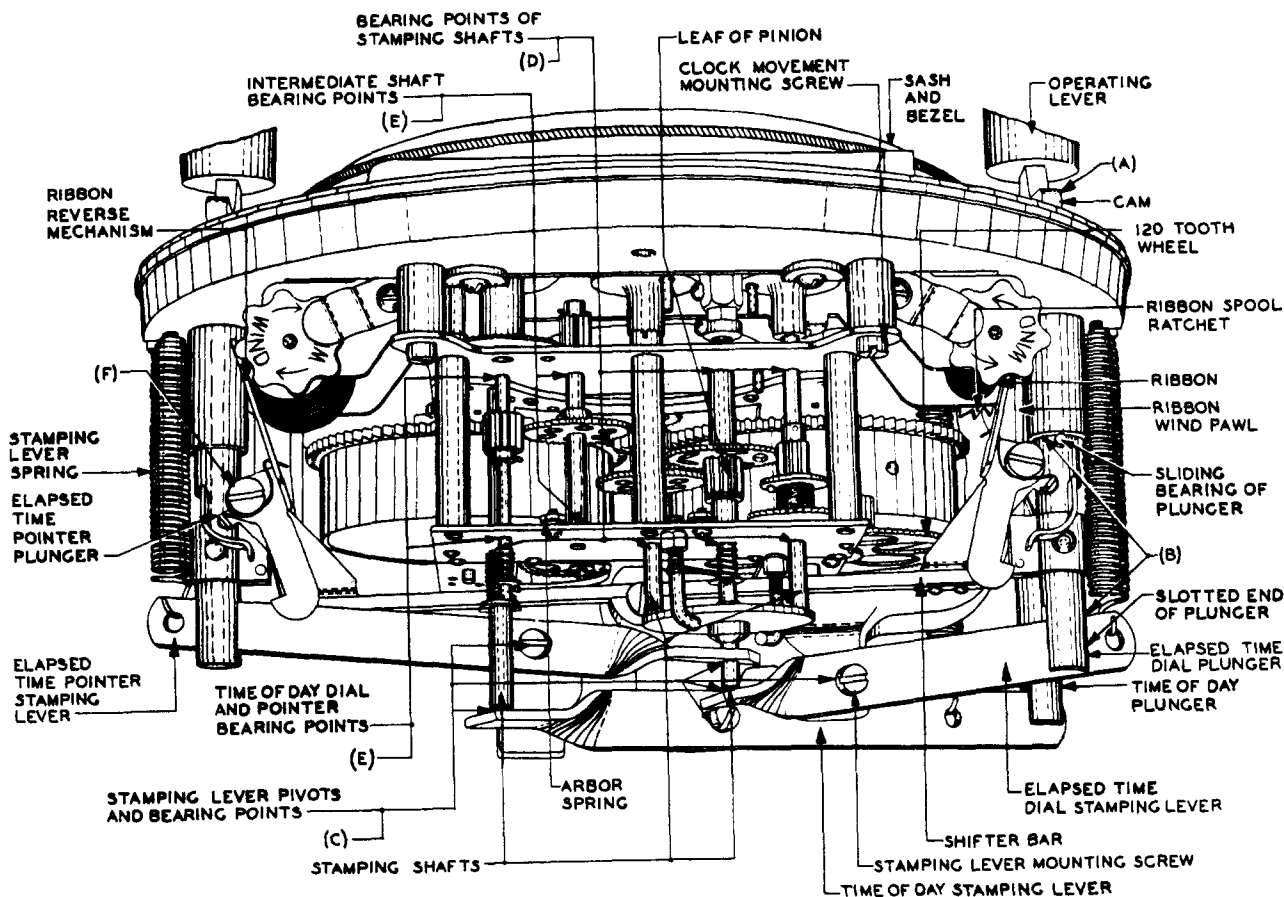

Fig. 2 — Unwound Spool Ribbon Reverse Mechanism — Model 6 Calculagraph
Cams — pivots and bearing points on plungers — Fig. 2(A)
Plungers — sliding bearings and slotted ends — Fig. 2(B)
Stamping levers — pivots and points which bear against stamping shafts — Fig. 2(C)
Stamping shafts — bearing points — Fig. 2(D)
Time-of-day dial, pointer, and intermediate shaft — bearing points — Fig. 2(E)
Pawl, ratchet, and pivots of reverse mechanism — Fig. 2(F)